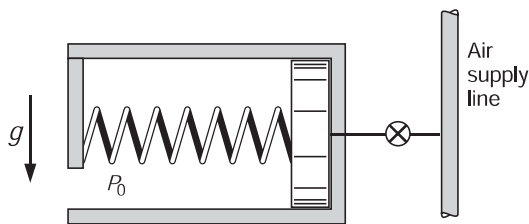

FIGURE P6.139
- 6.139** An insulated spring-loaded piston/cylinder device, shown in Fig. P6.139, is connected to an air line flowing air at 600 kPa and 700 K by a valve. Initially, the cylinder is empty and the spring force is zero. The valve is then opened until the cylinder pressure reaches 300 kPa. Noting that $u_2 = u_{\text{line}} + C_v(T_2 - T_{\text{line}})$ and $h_{\text{line}} - u_{\text{line}} = RT_{\text{line}}$, find an expression for T_2 as a function of P_2 , P_0 , and T_{line} . With $P_0 = 100$ kPa, find T_2 .